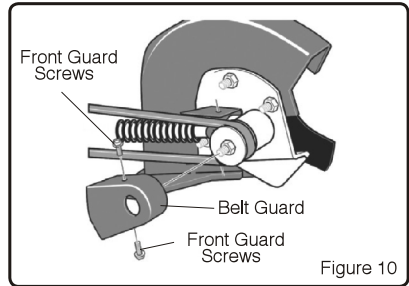

Figure 10
3. Remove the two Front Guard Screws and the Belt Guard. (See Figure 10)